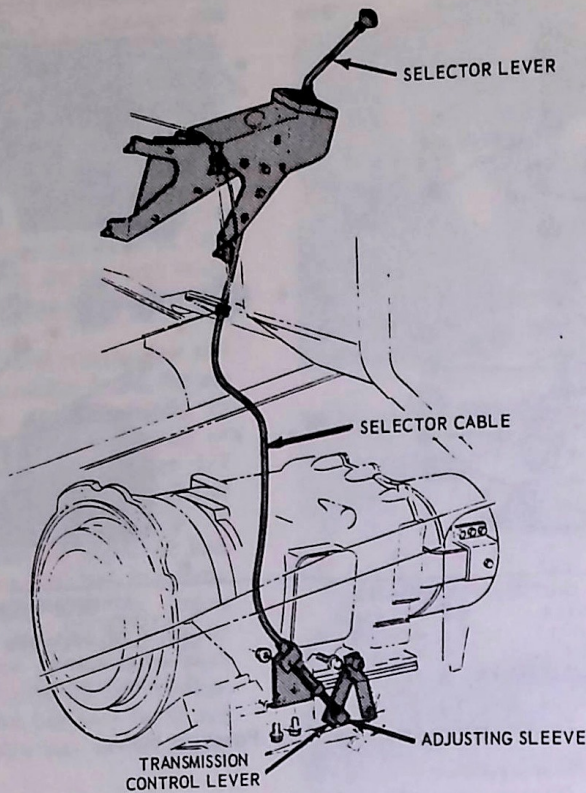

FIG. 6 Range Selector Linkage on L, LT, LM, or LNT-Series Trucks
2. Check the distance that the control cable adjusting threads extend above the sleeve assembled to the range selector arm (Fig. 6 or 7). This distance should not exceed 1/4 inch.
1. Check the hydraulic retarder pedal stop bolt height against the dimension shown in Fig. 8. Adjust as required. 801.FIG. 6 Range Selector Linkage on L, LT, LN OR LNT-Series Trucks 2 x 30 D2199-A